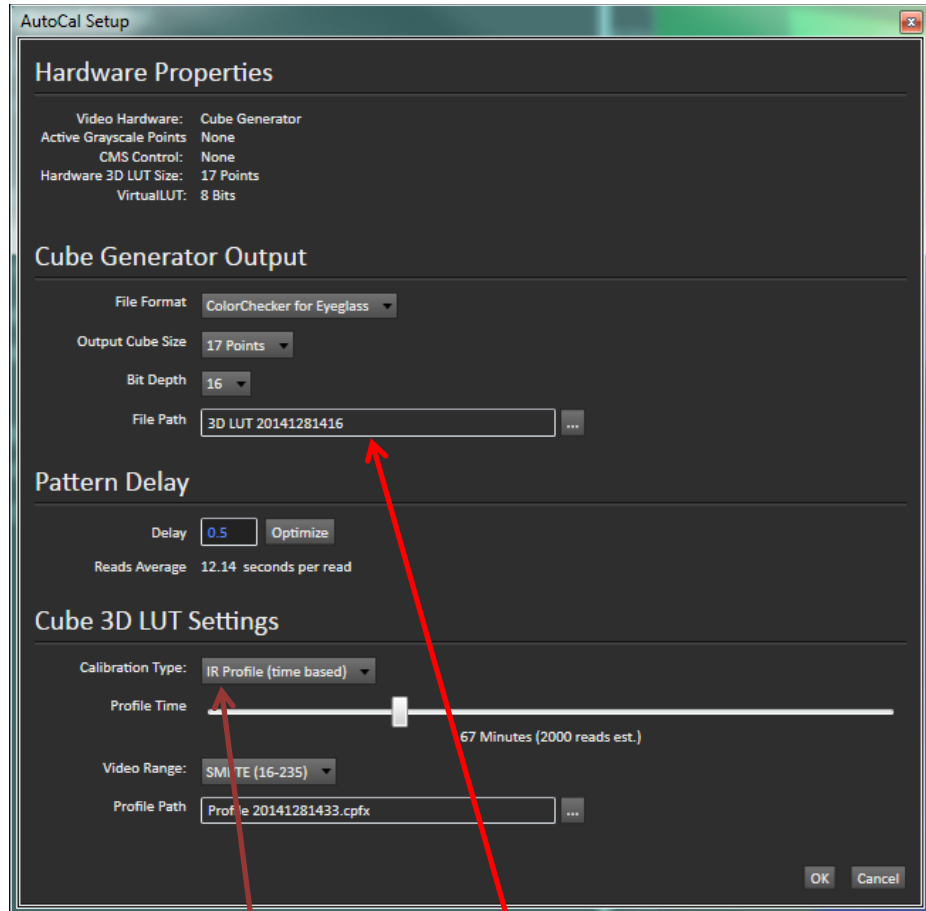

Figure 5. CalMAN AutoCal Setup dialog, from the Create Virtual 3D LUT page.
- b. On the *Create Virtual 3D LUT* page, click the *AutoCal* button to initiate the display calibration process with the *AutoCal Setup* dialog (Figure 5).